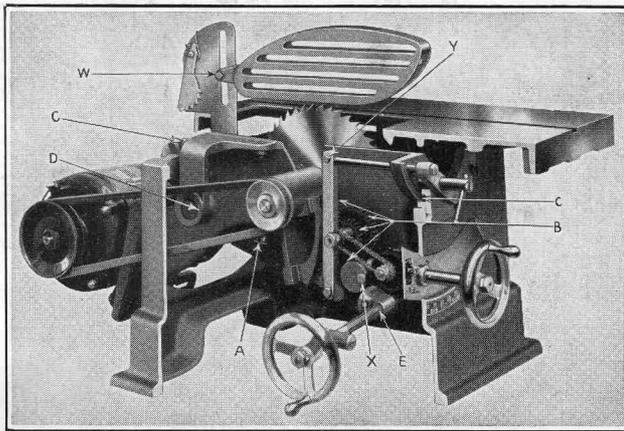

Fig. 2
4. To adjust tension on dial chain, loosen cap screw "X" (see Fig. 2) and adjust eccentric until proper tension is obtained; then tighten securely.
LUBRICATION CHART (Letters refer to Fig. 2) GREASING